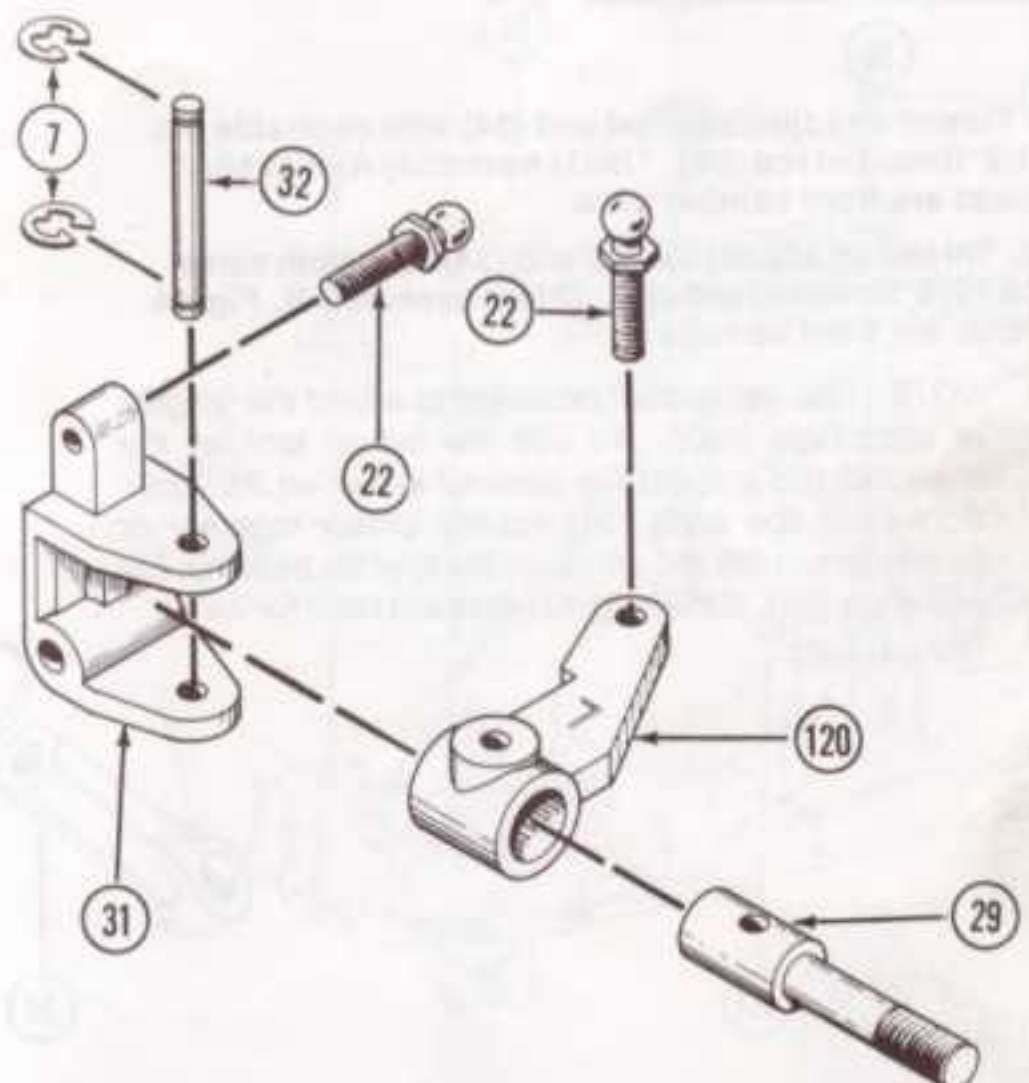

FIG. 12
5. Slide front axle (29) into spindle (30) (120) as shown so that holes are aligned. This is now called the spindle assembly. Fig. 12.
* NOTE: Spindle arms are marked for left (L) (120) and right (R) (30).
6. Place spindle assembly into spindle carrier (31) so letter on spindle (30) (120) arm faces up and insert 1/8" x .690 hinge pin (32) through spindle carrier (31) and spindle assembly and secure with two 1/8" E-clips (7). Fig. 12.
7. Thread one 3/8" studded ball (22) into top hole in spindle carrier (31) from the rear and one 3/8" studded ball (22) into spindle (30) (120) arm from the top. This is now called the spindle carrier assembly. Fig. 12.